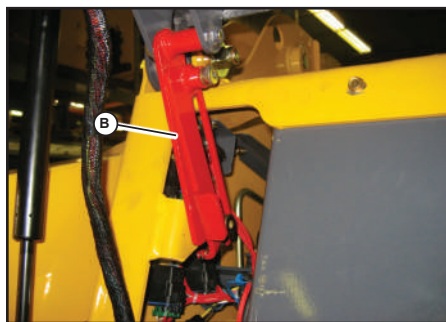

Fig. 32 - ROPS/FOPS lock shown engaged
5. Lift ROPS/FOPS up and tilt it back until the self-actuating lock mechanism engages. The lock mechanism locks the ROPS/FOPS in a rolled-back position (B, Fig. 32).
1. With an assistant's help, apply upward force on the ROPS/FOPS while pulling the self-actuating lock mechanism handle (B, Fig. 32) toward the front of the loader.